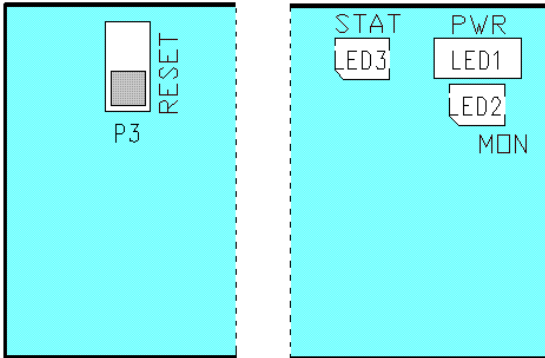

Figure 2-2. Resetting the Target
- Two solder points labeled **RESET** (reference designator P3) are located near the JTAG connector (J1) and USB connector (P1) on the ICE-100B (see Figure 2-2).
Figure 2-2 shows a portion of the ICE-100B emulator.